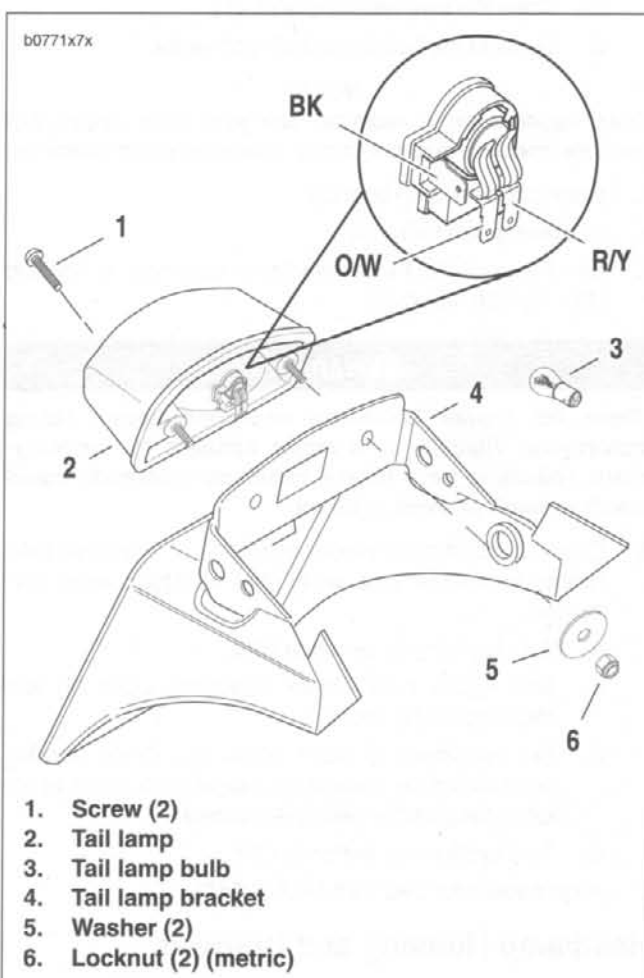

Figure 7-45. Tail Lamp
3. See Figure 7-45. Remove two locknuts (6) (metric) and washers (5) from within trunk.
1. See Figure 7-45. Attach the three tail lamp wires.
2. Install tail lamp using two locknuts (6) (metric) and washers (5).
3. If removed, install tail lamp bulb (3).
- b. Install tail lamp lens with two screws (1).